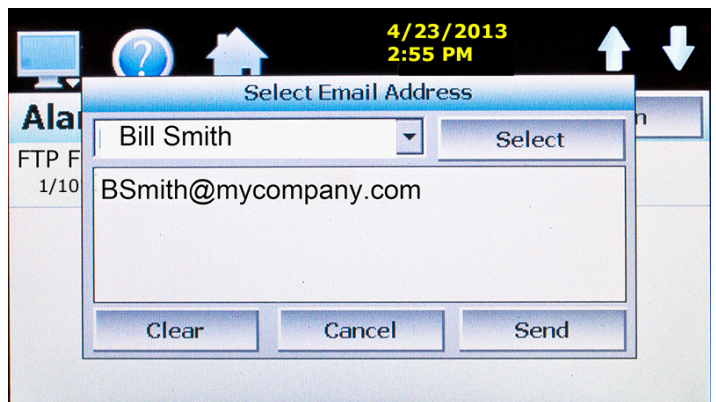

Fig. 92: Email Alarm File
- A pop-up screen appears with a list of e-mail addresses. Select recipients for the file from e-mail addresses in the list and press SEND (Fig. 92).